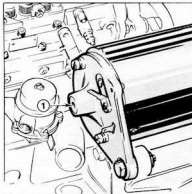

Fig. 16 Generator Lubrication
1. Insert an oil can spout into the lubrication hole in the generator rear bearing (Fig. 16) and inject a few drops of engine oil.